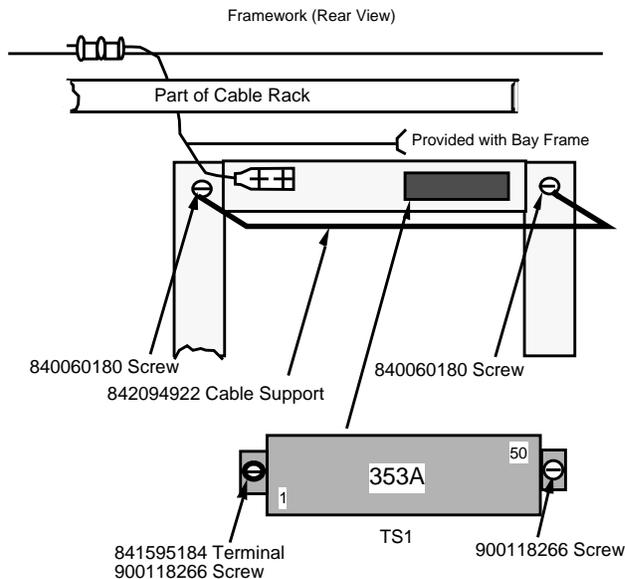

Figure 2-7. TS1 Terminal Block Location
Step 1: Mount the TS1 (353A) block on the top right side of the rear of the bay framework in the frame's predrilled holes. Orient the block so that the numbering runs from the lower left (1) to upper right (50).
Step 2: Use the hardware detailed in Figure 2-7 to mount the terminal block and the cable support rod.